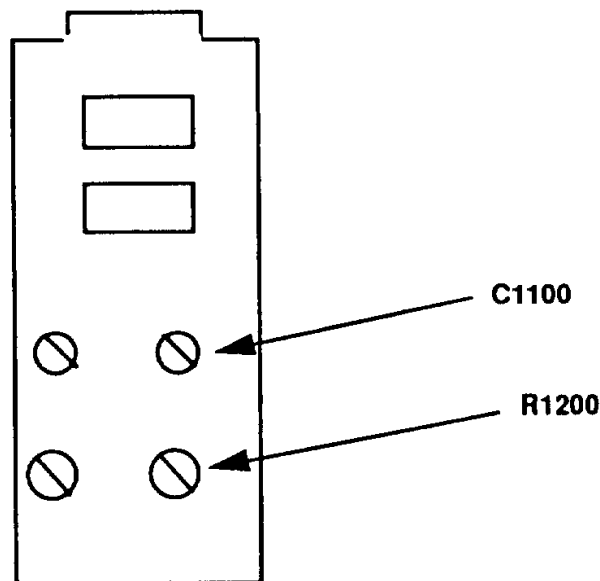

Figure 3. Pulse head fast edge leading aberration adjustment locations.
- (3) Press and hold **FAST EDGE** pushbutton until display indicates **dL**.
- (4) Set digitizing oscilloscope probe attenuation to 5 and acquire signal using digitizing oscilloscope and set sensitivity to 10 mV/D and sweep speed to 5 ns/D.
- (5) Adjust digitizing oscilloscope offset until the flattest portion of waveform is centered on horizontal center graticule.
- (6) Adjust R1200 (fig. 3) for a maximum flatness on the top pulse (R).
- (7) Adjust C1100 (fig. 3) to equalize the aberrations on each side of horizontal graticule center line (R).
- (8) Repeat (6) and (7) above as necessary until optimum displayed pulse is obtained.
- (9) Digitizing oscilloscope will display a pulse indicating aberrations $\leq \pm 3$ percent of pulse amplitude. Adjacent pulse peaks will not exceed 4 percent peak-to-peak.
- (10) Press **OUTPUT ON** pushbutton off and remove all connections from TI.
- (11) Repeat paragraphs 25 through 27 above.